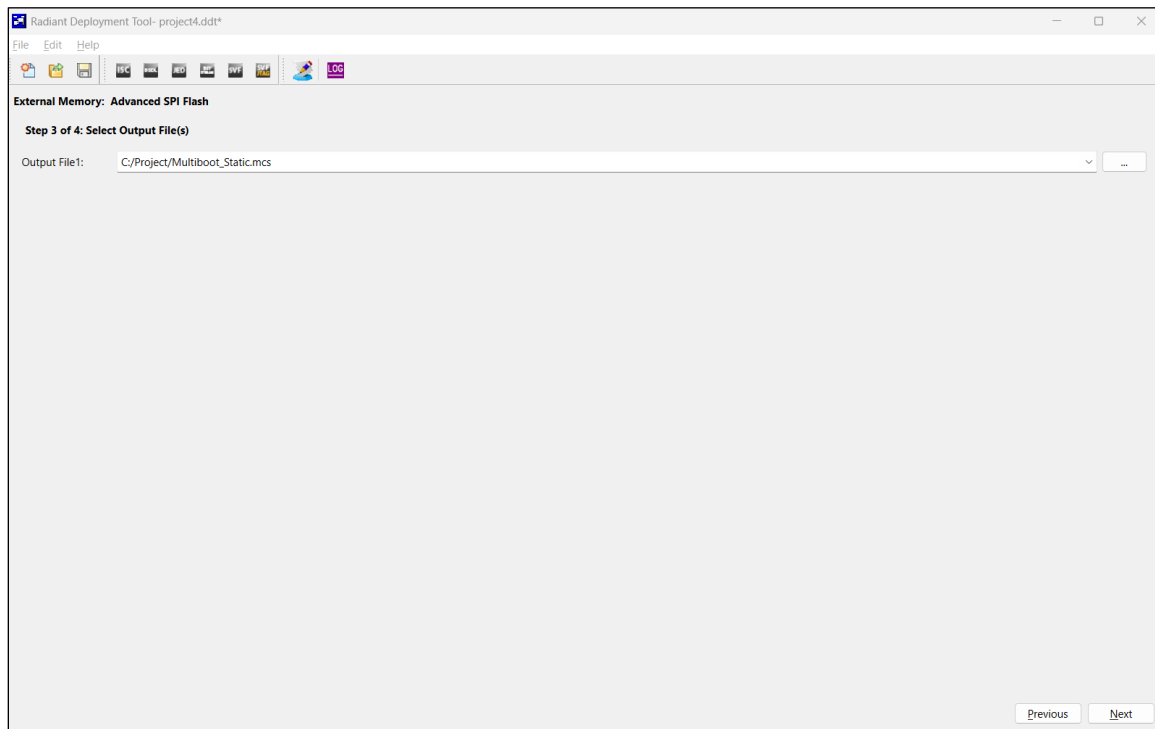

Figure 7.19. Select Output File(s) Window
Step 3 of 4: Select Output File(s) window (Figure 7.19)